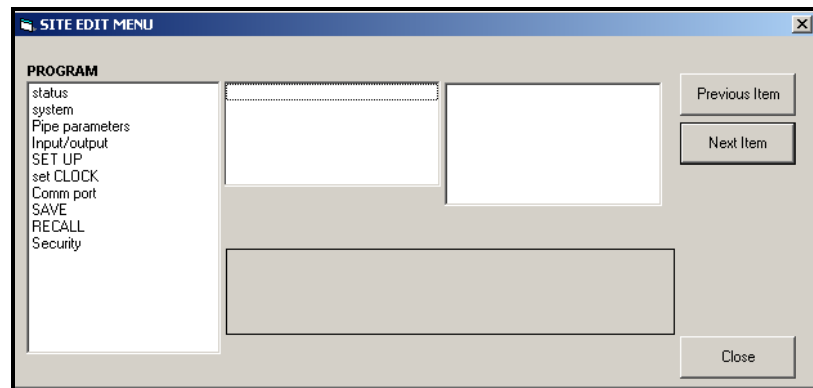

Figure C-20: Site Edit Menu Window
- To open a particular menu, double-click on that menu on the tree. For example, if you double-click on the Site Edit Menu, a window opens similar to Figure C-20 below.